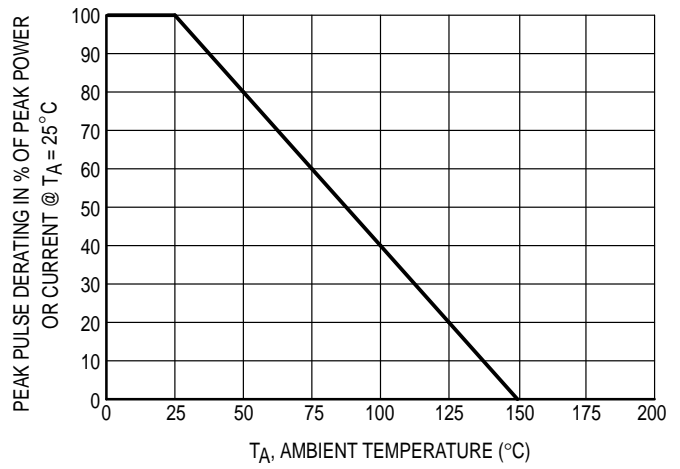
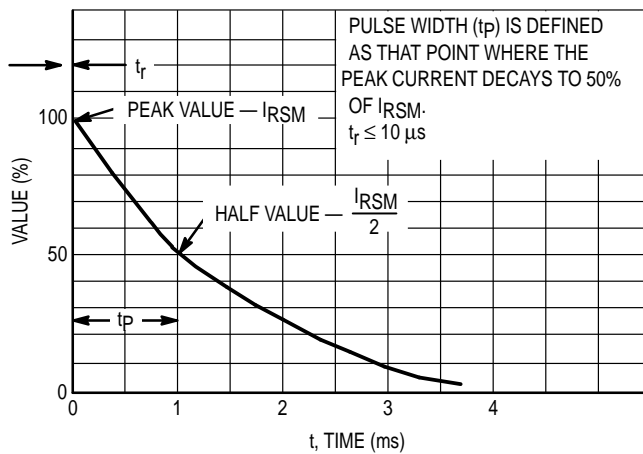
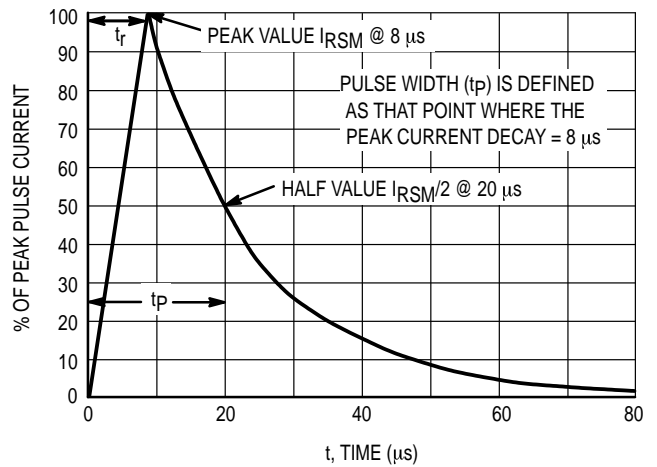

Figure 4. Pulse Derating Curve
Figure 5. 10 × 1000 µs Pulse Waveform
Figure 6. 8 × 20 µs Pulse Waveform
- Peak Power — Min. 24 W @ 1.0 ms (Unidirectional), per Figure 5 Waveform
- Peak Power — Min. 150 W @ 20 μ s (Unidirectional), per Figure 6 Waveform
1. Non-repetitive current pulse per Figure 5 and derate above $T_A = 25^\circ\text{C}$ per Figure 4.
2. Non-repetitive current pulse per Figure 6 and derate above $T_A = 25^\circ\text{C}$ per Figure 4.
(5) V_Z measured at pulse test current I_T at an ambient temperature of 25°C .
(6) Surge current waveform per Figure 5 and derate per Figure 4.
(7) Z_{ZT} is measured by dividing the AC voltage drop across the device by the AC current supplied. The specified limits are $I_{Z(AC)} = 0.1 I_{Z(DC)}$, with AC frequency = 1 kHz.